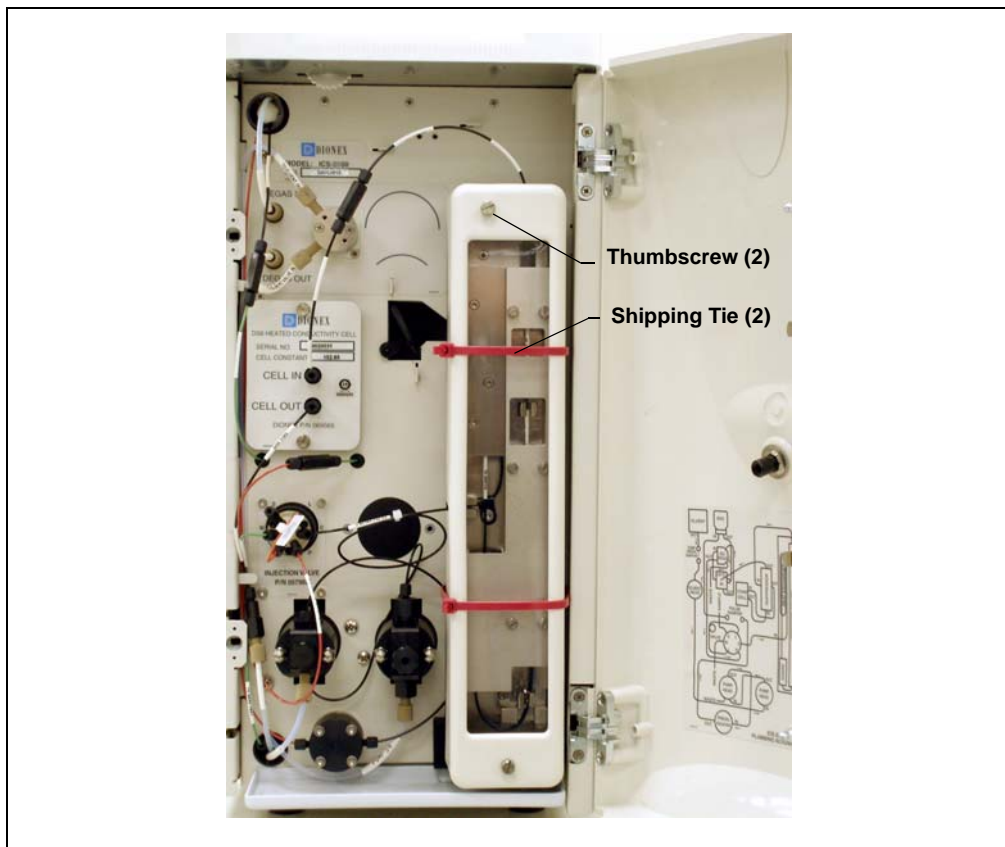

Figure 27. Column Heater with Shipping Ties
1. Cut off the two shipping ties from the column heater and remove them (see Figure 27).